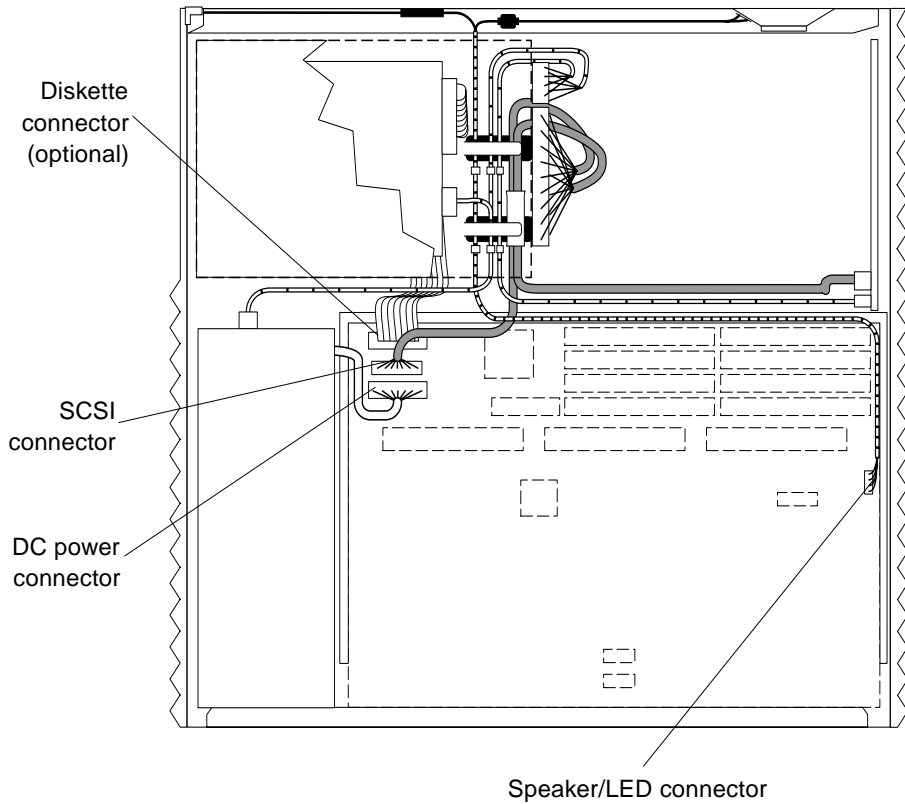

FIGURE 11-42 Connecting Diskette, SCSI, DC Power, and Speaker/LED Connectors
7. Connect the following to the system board (FIGURE 11-42):